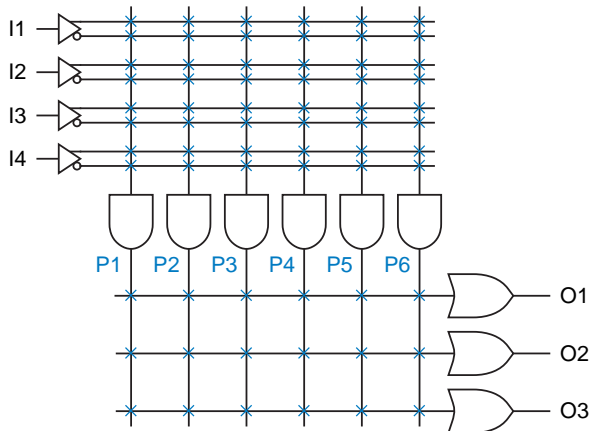

Figure 4: Compact representation of a  $4 \times 3$  PLA with six product terms.
- PLA in Fig. 4 can perform any three 4-input combinational logic functions that can be written as SOPs using a total of six or fewer distinct product terms, e.g.